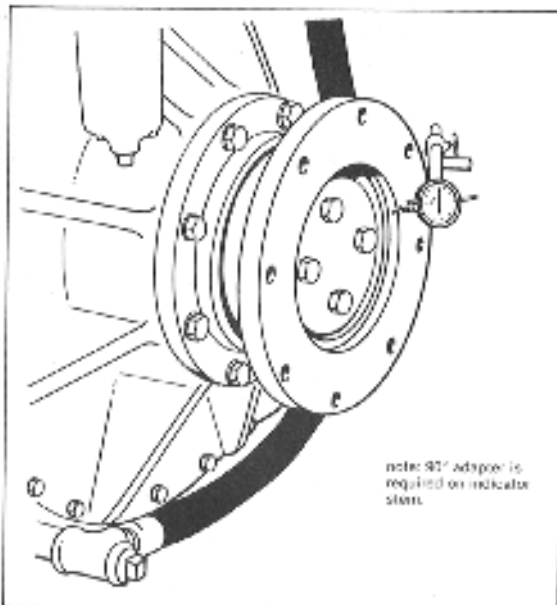

Fig. 38. Dial Indicating Output Flange Pilot Ring Groove
- a). With a thousandths dial indicator check the run out of the output flange pilot ring groove as shown in fig.38. Variation must not exceed .003" max.